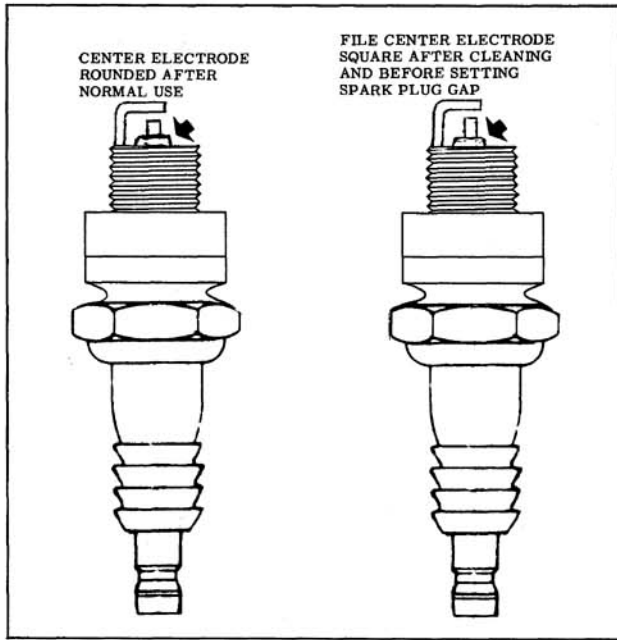

Fig. 13-73 Filing Center Electrode
1. The center electrode should be filed flat before the gap setting is made. (Fig. 13-73) Spark plug gap should be .030".